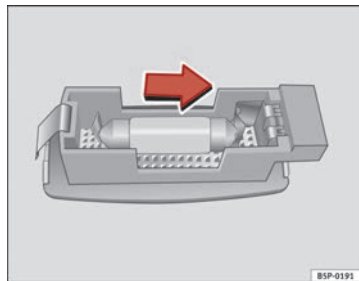

Fig. 196 Removing sun visor light
- Carefully remove the lamp, using the flat side of the screwdriver, as shown in the figure ⇒ fig. 196.
- Remove the bulb, moving it in the direction of the arrow and outwards ⇒ fig. 196.